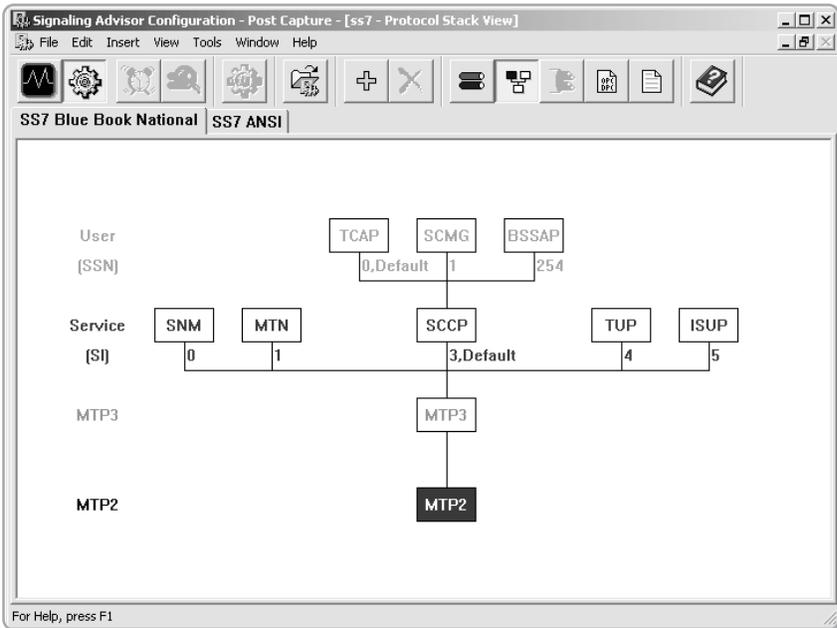

Figure 2: Protocol stack configuration.
If the default protocol stacks do not match the signaling being tested, or a special variant is required, you can quickly change the assigned protocol stack graphically. Service Indicators (SI) and Sub-System Numbers (SSN) can be edited quickly and easily. Figure 2 shows a typical protocol stack.
Hardware counters and filters allow the user to select cells or AAL5 PDUs to bring into the capture buffer. With data filtering, the user can zero in on exactly the data the user needs to see. The filters examine every cell in real time as it appears on the network. Since the filtering is done in the hardware, nothing is missed, and the performance of the measurements and user interface are not compromised. Up to twelve hardware filters and counters can be enabled simultaneously and, additionally, any two of the filters can be enabled to capture all the cells that contain AAL5 PDUs. Flexible and user assisted menus can be used to define specific filters, counters, and triggers based on protocol headers (see figure 2). Examples include ATM, LAN over ATM (to RFC 2684/1483), Frame Relay (FRF.5), LAN over Frame Relay over ATM (to RFC 2427/1490 and FRF.5 simultaneously), and Classical IP and ARP over ATM (RFC 2225/1577). Filter and counter criteria can be used to start/stop the data capture and to center the data in the buffer, the user can see what led up to an event and what followed it. Filter criteria may also be used to ignore or store the data.